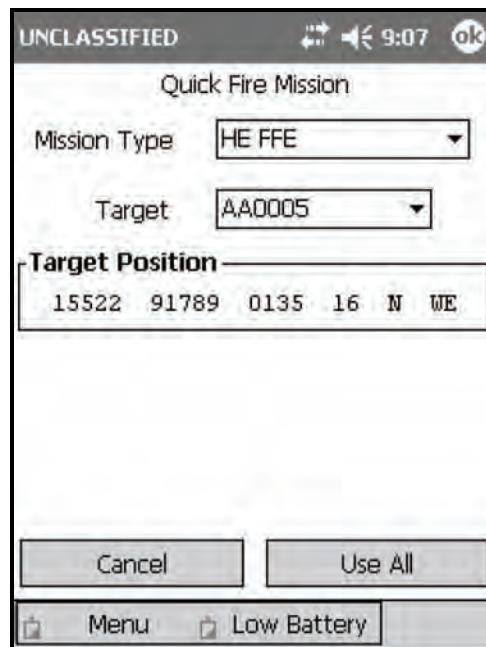

Figure 18-13. Quick Fire Mission screen.
- (1) Select Menu.
- (2) Select Manual Missions.
- (3) Select Quick Fire Msn.
- (4) The Quick Fire Mission screen (Figure 18-13) displays.
- (5) Set the mission type (HE FFE, ILL FFE, SUPPRESS, IM SMOKE, or FPF).
- (6) Select the target to be fired from the pull-down menu.
- (7) Verify the target grid displayed in the Target Position field.